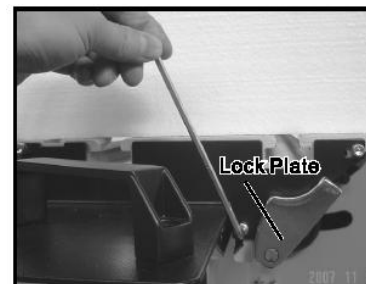

fig.26
2. Install right end plate (Fig. 26 ) using 4 of the screws removed in the previous step.